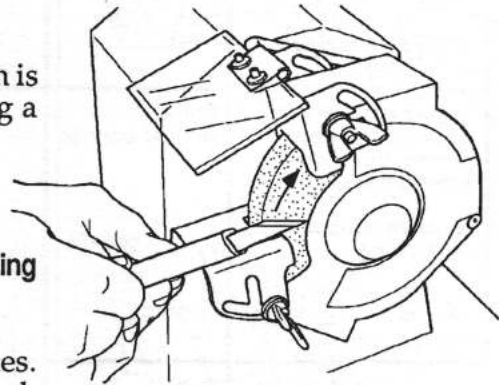

Fig. 28
a. Grind or hone the workpiece on the side of the wheel which is flat. Fig. 28 illustrates using the side of the wheel for honing a carving knife. Notice the tool rest is at 90° to the wheel.